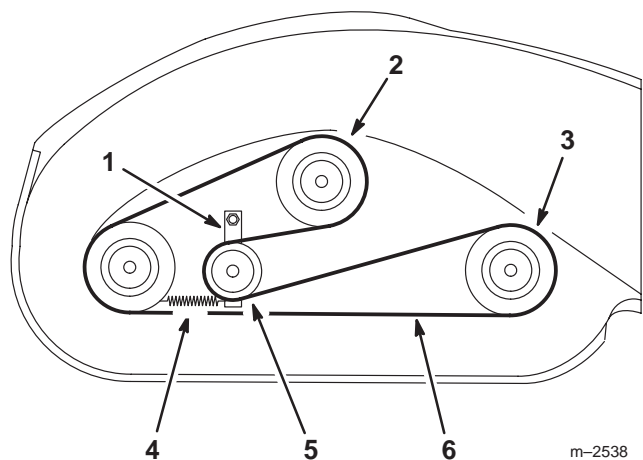

Figure 24
2. Grease the fittings on the three spindle bearings and the idler arm (Fig. 24).
4. Disconnect the idler arm spring to relieve tension on the idler arm and idler pulley, then remove the worn deck belt (Fig. 24).
5. Install the new deck belt around the two outboard spindle pulleys, the idler pulley, and in the lower groove of the center spindle pulley (Fig. 24).
6. Reconnect the idler arm spring (Fig. 24).